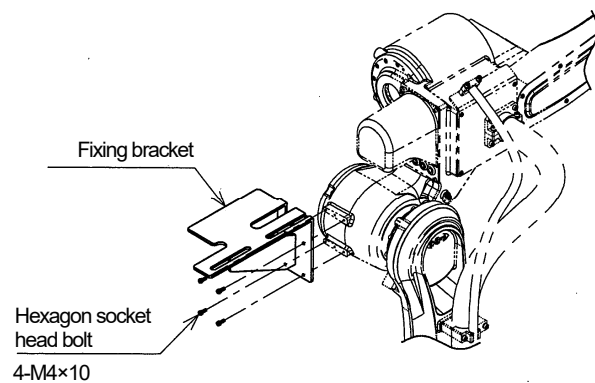

Figure 1.1 Mounting of fixing bracket
1. Referring to Figure 1.1, mount the fixing bracket onto the posterior part of JT3 of arm using four hexagon socket head bolts (M4×10).